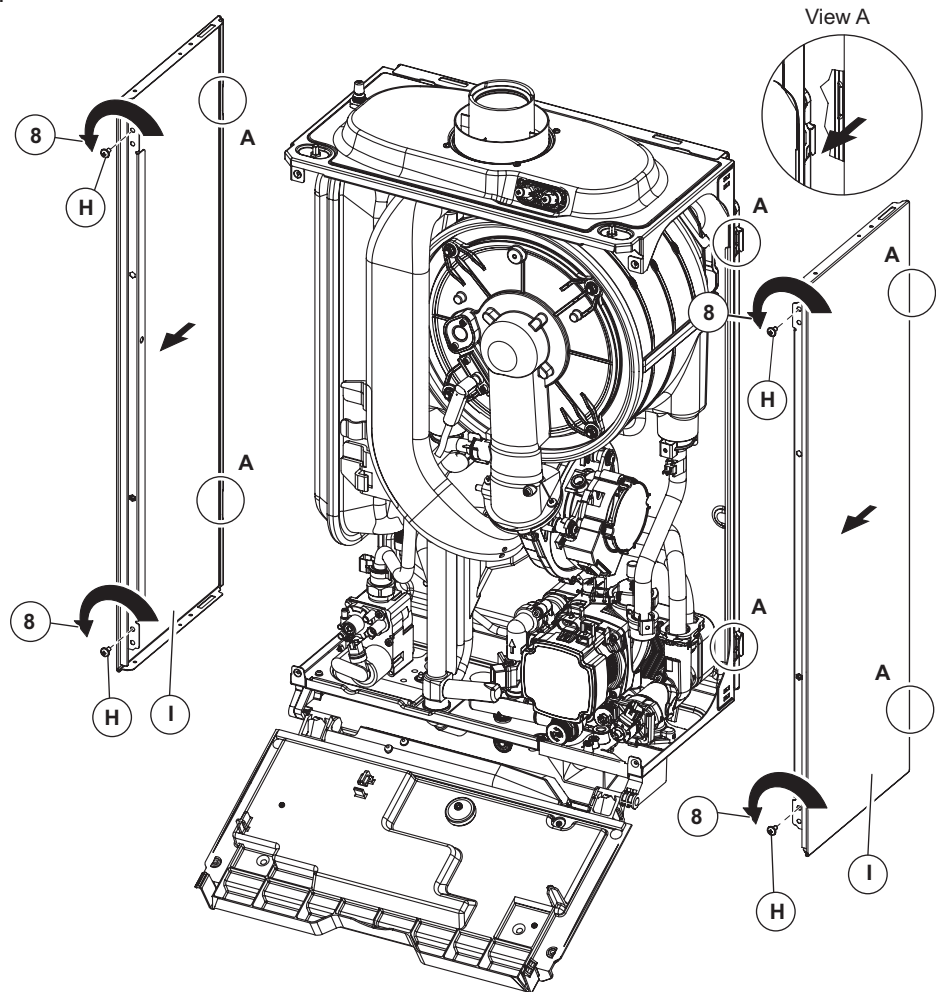

Fig. 6.4
Side panels - Fig. 6.4
- 8. Remove the screws 'H' securing the side panel 'I'. Lift the side panel and pull it forwards unhooking it from the rear panel (view 'A' in Fig. 6.4) Lower the panel out and away from the top cover.